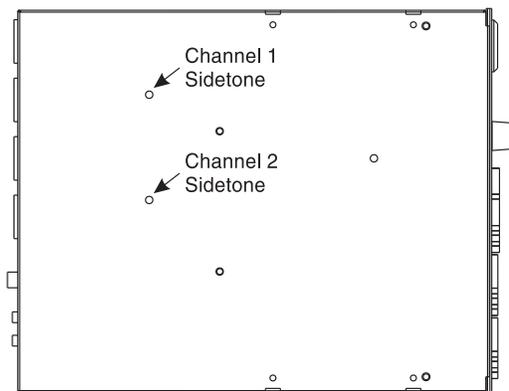

FIGURE 16. US-2002 Bottom View
4. Using a small flathead screwdriver, adjust the **channel 1 sidetone** through the access hole in the bottom of the US-2002 (Figure 16 on page 28) to minimize the tone volume.